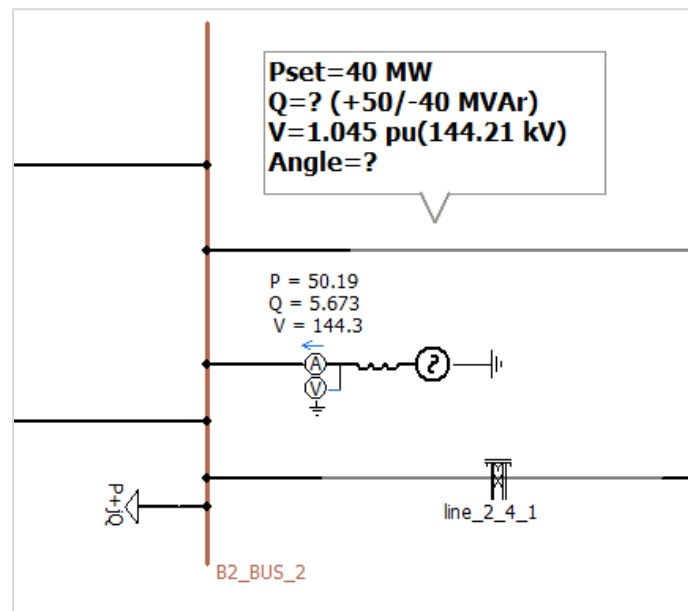

Figure 1 - Generator at B2 BUS 2
- For example, the generator at bus BU\_BUS\_2, is set to generate 40 MW of active power and the bus voltage to be controlled to 144.21 kV. However, the measured active power and voltage do not match the expected values (see Figure 1).